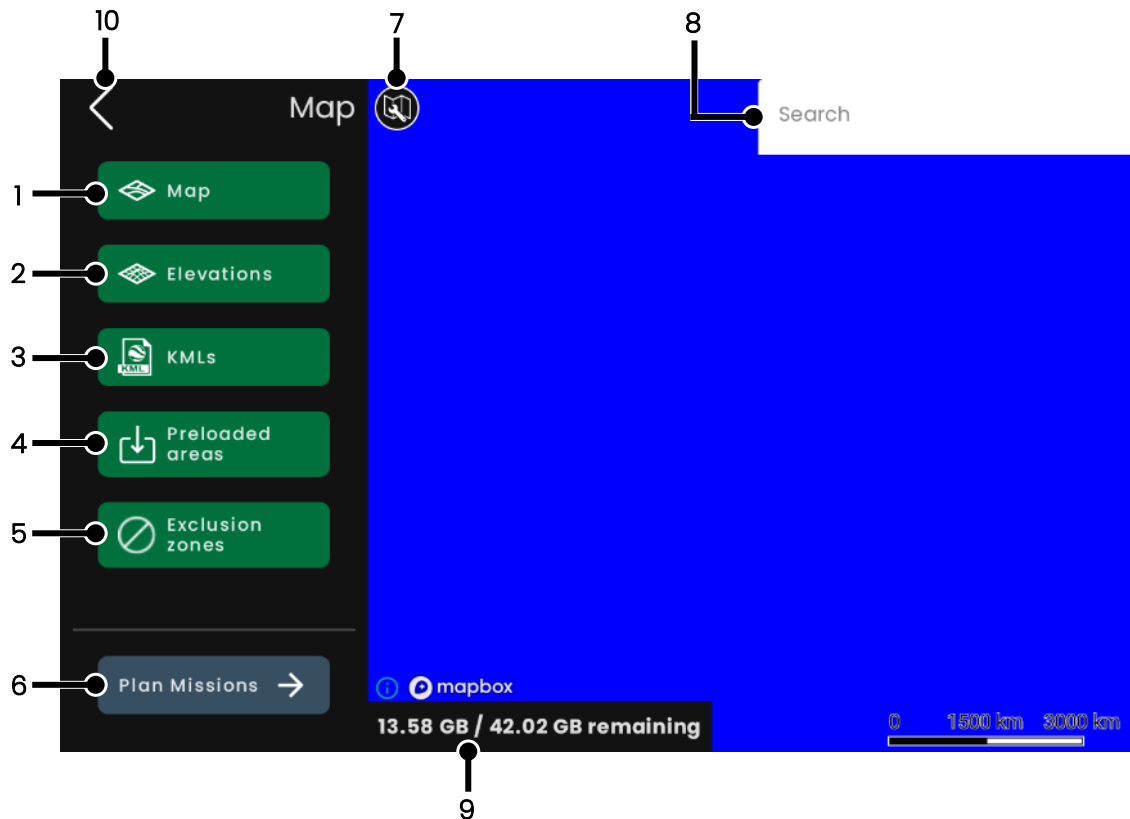

Figure 3-2 Map screen
A single press on Figure 3-2 Map screen (7) will open a navigation menu, as shown below.
- On specific coordinates with a dedicated widget, using (1).
- If connected to a drone, to the drone current location, using (2). If the GCS is not connected to any drone, then the button is disabled, as shown in the image.
- To the GCS position, as reported by GCS GPS module, using (3). If the GCS position is not known, the button is disabled, as shown in the image.
Using Figure 3-2 Map screen (8), it is also possible to search for specific addresses. Please note that this feature requires an active internet connection.
At any time, pressing on Figure 3-2 Map screen (6) will open the *Mission preparation* screen (see section 3.2 Plan Missions) and pressing (10) brings back the previous menu.